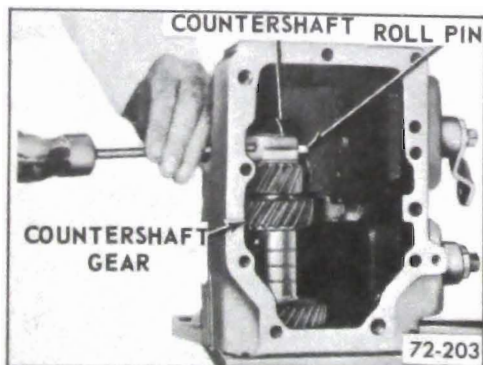

Figure 72-203 - Removing Countershaft Shaft Retaining Pin
5. Through filler plug hole drive out countershaft to case rear pin. See Figure 72-203.